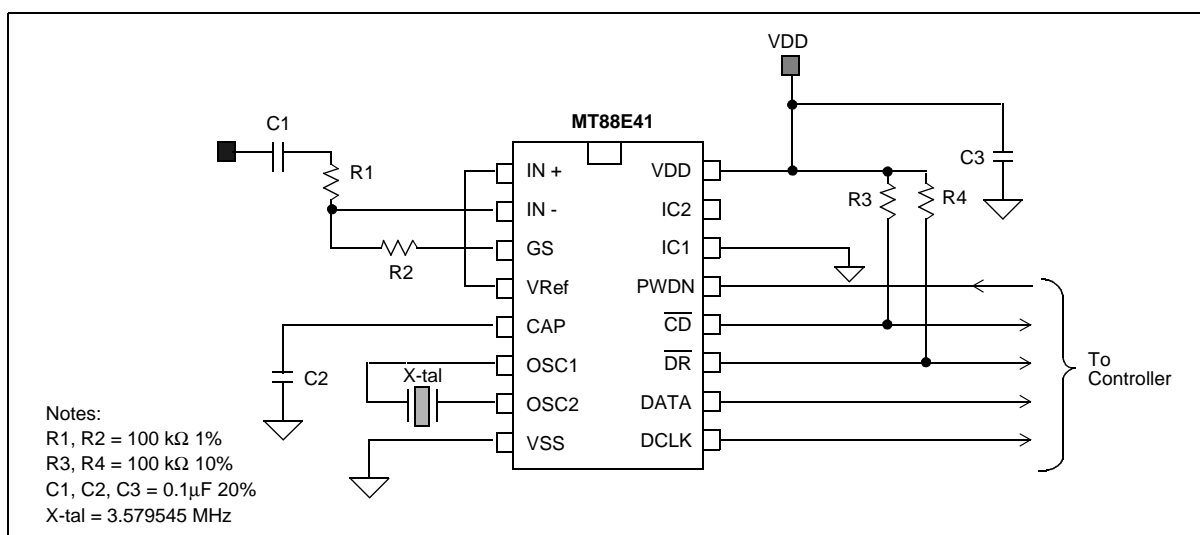

Figure 6 - Application Circuit (Single-Ended Input)
The circuit shown in Figure 6 illustrates the use of the MT88E41 device in a typical FSK receiver system. Bellcore Special Report SR-TSV-002476 specifies that the FSK receiver should be able to receive FSK signal levels as follows:
This condition can be attained by choosing suitable values of R1 and R2. The MT88E41 configured in a unity gain mode as shown in Fig. 6 meets the above level requirements.
2. Using unity gain test circuit shown in Figure 6.